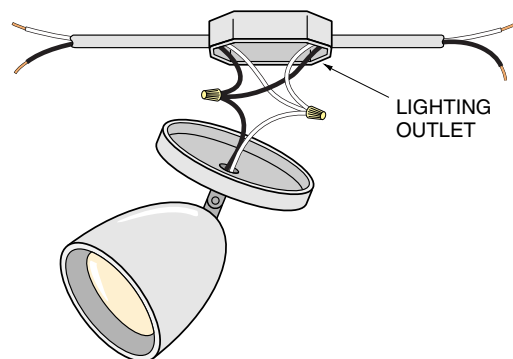

Figure 2-3 When a luminaire (lighting fixture) is connected to the branch-circuit wires, the outlet is called a *lighting outlet*.
► A **lighting outlet** is: *An outlet intended for the direct connection of a lampholder or luminaire. See Figure 2-3. ◀*